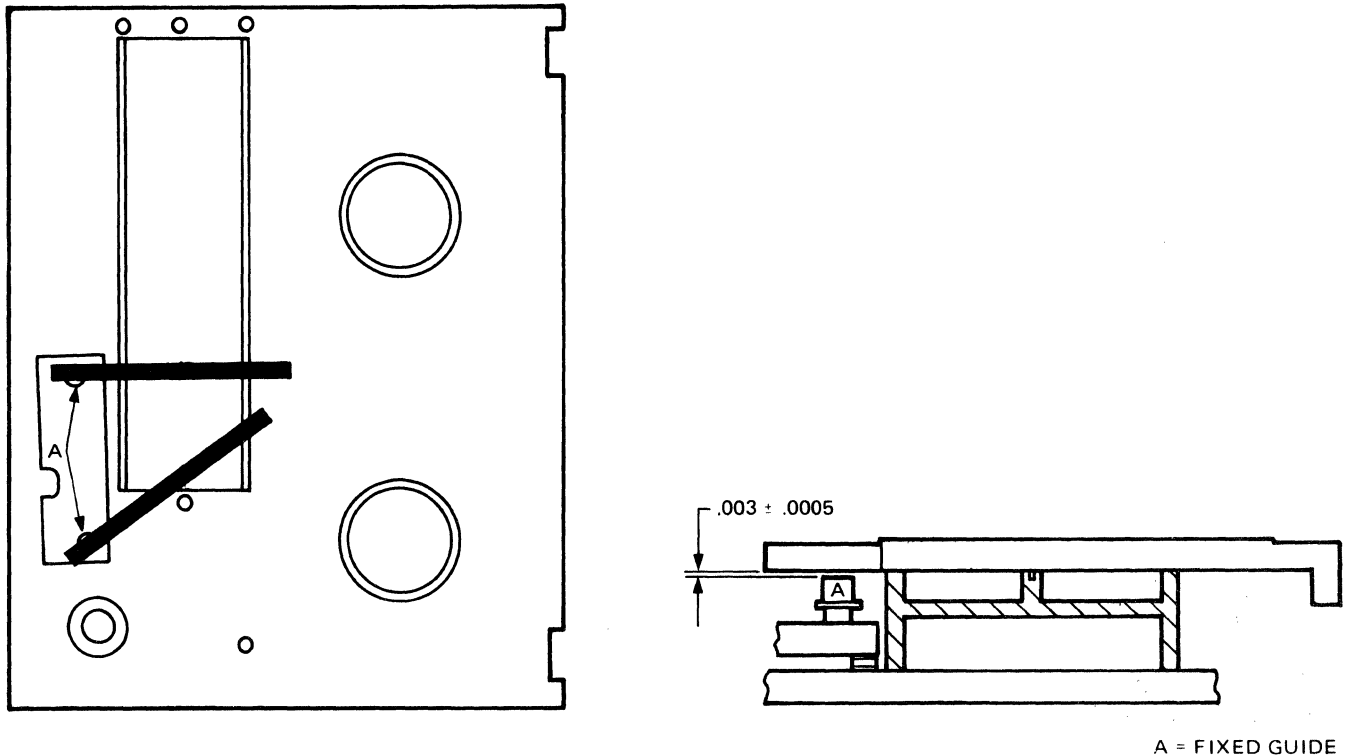

Figure 5-10. Head Plate Alignment Tool Positioning
- e. Check each guide as shown in figure 5-10 which indicates the two positions of the alignment tool. The flat edge of the tool is used. Place the flat edge across the vacuum chamber so that the tool is over the guide and then measure the gap with a feeler gauge. The gap should be $.003 \pm .005$ inches.